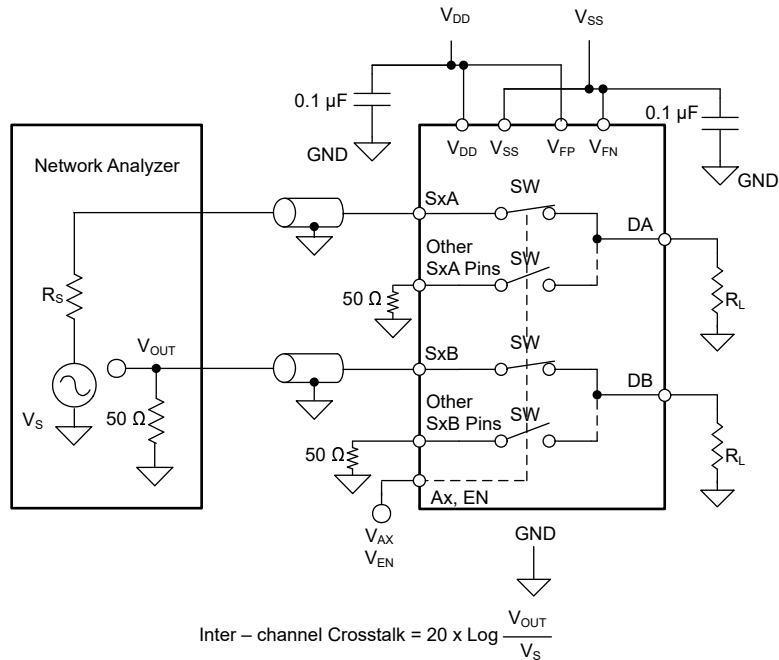

Figure 8-16. Inter-Channel Crosstalk Measurement Setup
2. Inter-channel crosstalk ($X_{TALK(INTER)}$): **Figure 8-16** shows the voltage at the source pin (Sx) of an on-switch input, when a signal is applied at the source pin of an on-switch input in a different channel. Inter-channel crosstalk applies only to the TMUX7349F device.